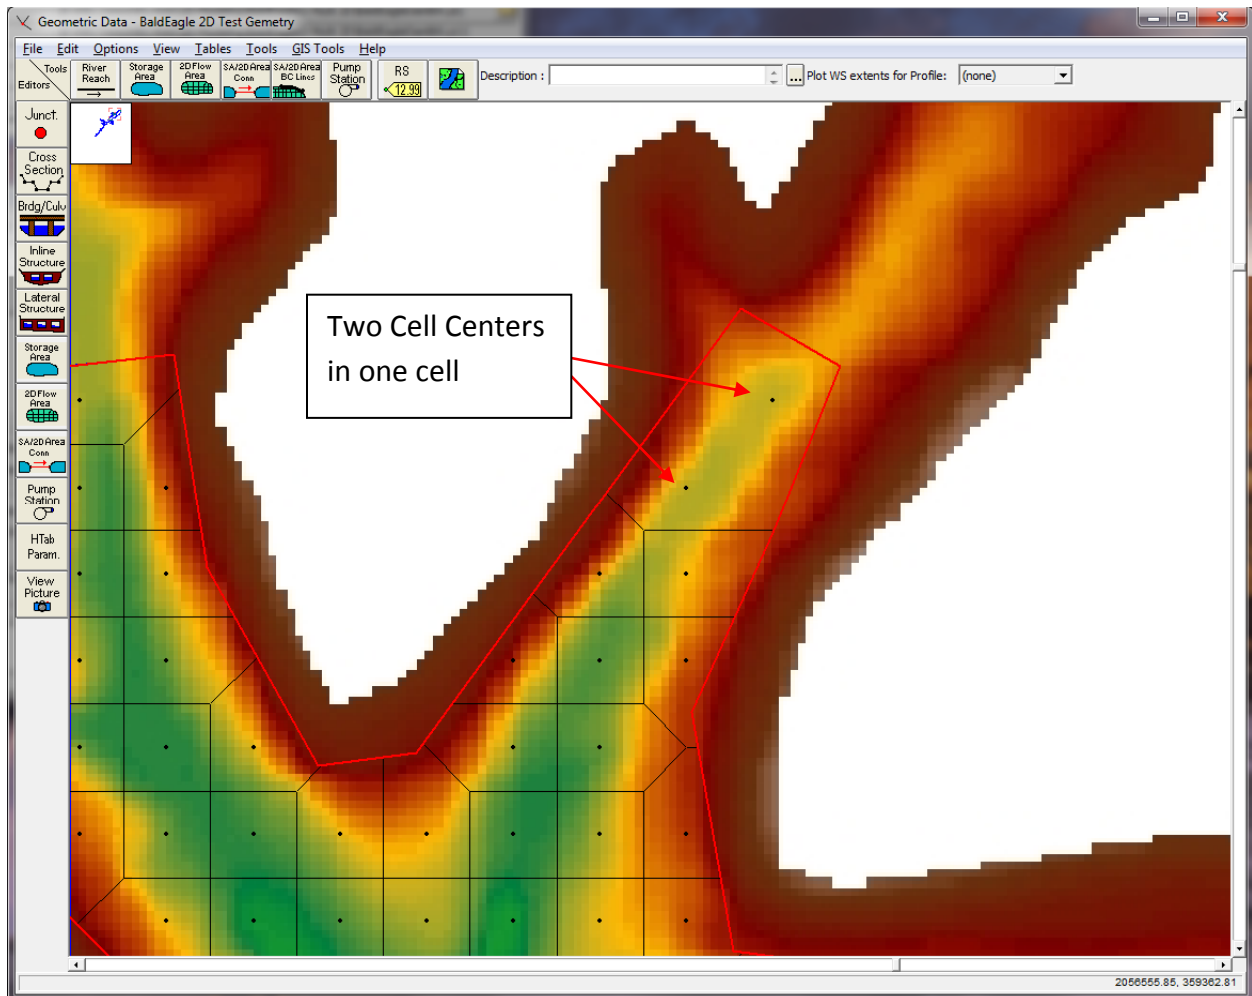

Figure 19. Example of a cell with two cell centers.
- **More than One Cell Center in a Single Cell:** Sometimes on the outer boundary cells, the automatic mesh generator will create a cell with more than 1 cell center point inside the cell (see Figure 19 below). Computationally this is not allowed. To fix it, go to the Geometric Editor “Edit” menu and select the “Remove Points” Option. Then just click on the points you want to remove in the cell that has more than one cell center.